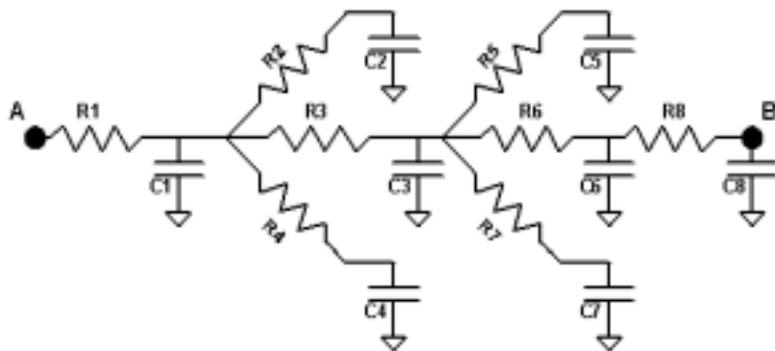

Figure 0.4 RC tree for calculating the delay
- [M, None, 4.x] For the RC tree given in Figure 0.4 calculate the Elmore delay from node A to node B using the values for the resistors and capacitors given in the below in Table 0.1.
Table 0.1 Values of the components in the RC tree of Figure 0.4